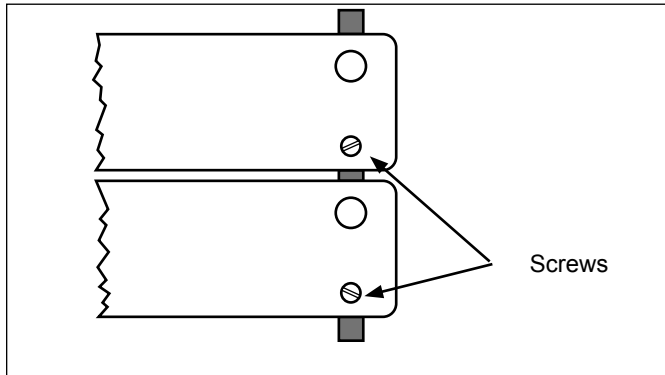

Figure 8. Master Links
- Apply **McD[®] All-Purpose Super Concentrate (APSC) (HCS)** on a **non-scratch** pad and clean the vertical Conveyor Belt for two complete revolutions, wiping side to side. Use the dual holes in the master links as a reference (see Figure 8).